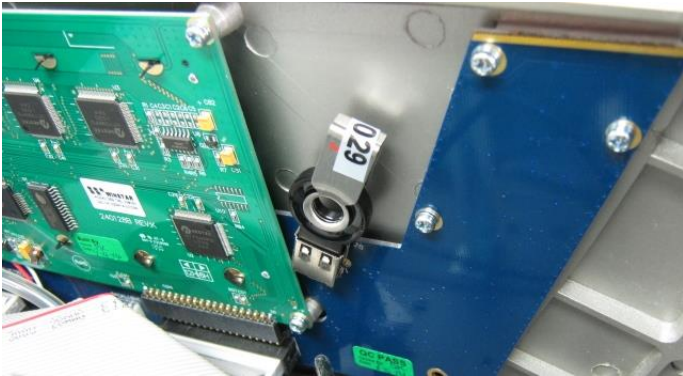

Figure 6 – Installation of USB Memory Stick
1. Open the lid and ensure that the USB memory stick is installed (refer to Figure 6)
11. Remove the USB memory stick and pack with instrument (refer to Figure 6).